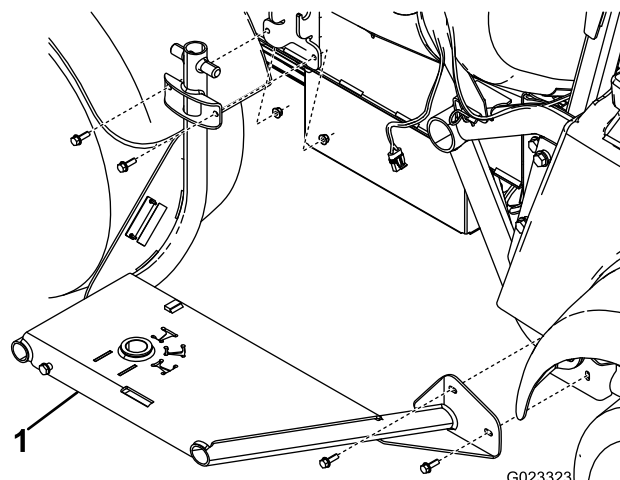

Figure 5
1. Mount the hose-reel frame to the side of the machine using 4 bolts (5/16 inch) and 4 flange nuts (5/16 inch) as shown in Figure 5.